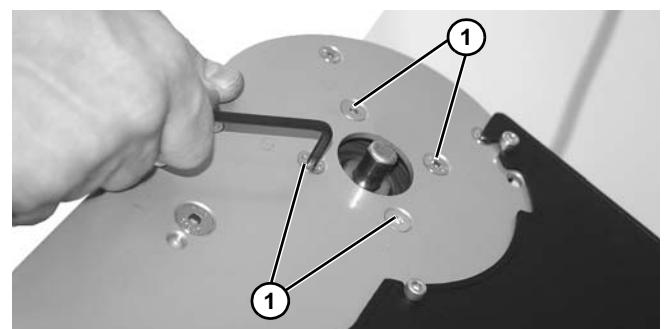

Figure 110
4. Remove four screws (Figure 110, item 1) on side of drive spindle.